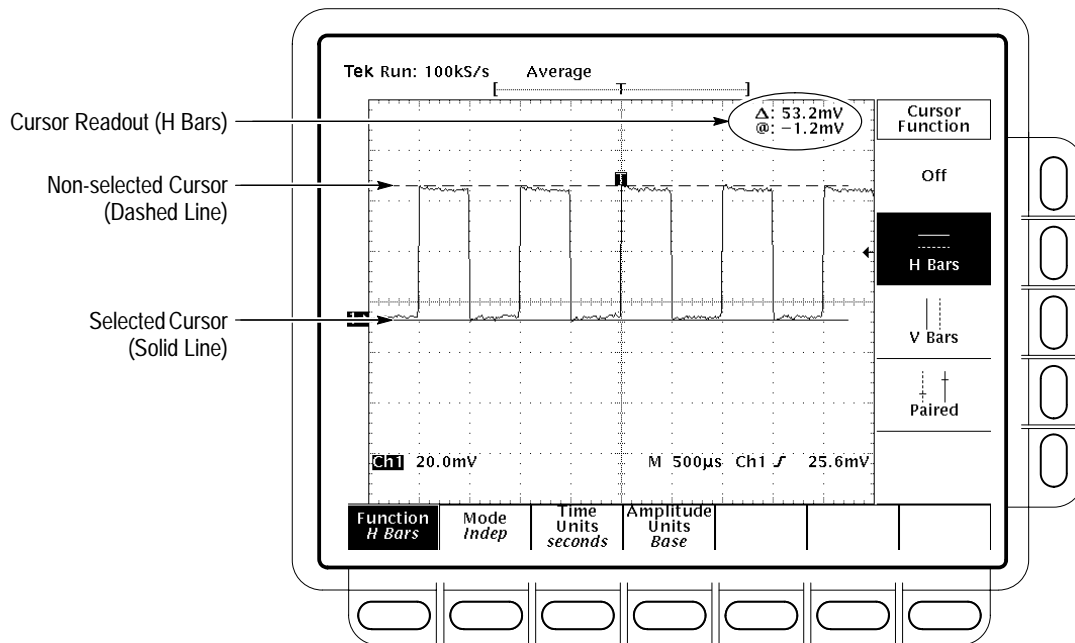

Figure 3–67: H Bars Cursor Menu and Readouts
**Paired.** The value after one  $\Delta$  shows the voltage difference between the two Xs; the other  $\Delta$  shows the time (or frequency) difference between the two long vertical bars. The value after @ shows the voltage at the X of the selected cursor relative to ground. (See Figure 3–68.)